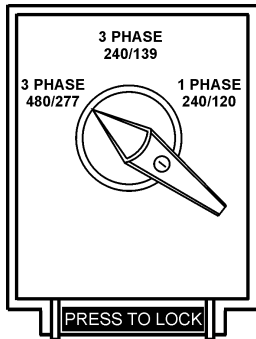

Figure 25. Voltage Selector Switch 480/277V Three-Phase Position
1. Place the voltage selector switch in the 3Ø 480/277 position as shown in Figure 25.